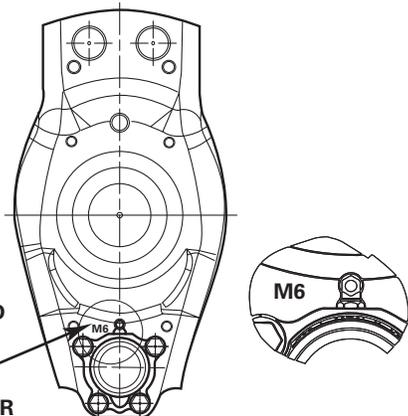

Figure 6.18
- For identification, 5-inch and MTec6 (6-inch) axle models which are produced after “March-2018” will have “M6” embossed on the spider inboard surface near the cam retainer grease zerk. The new two-piece dust shield can only be installed on these axles. Figure 6.18.